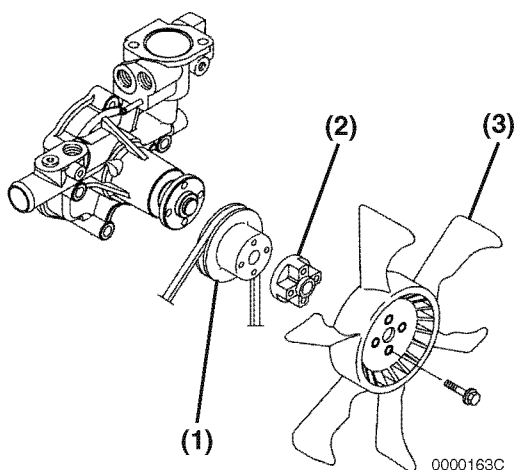

Figure 9-15
Remove the cooling water fan guard (if equipped), cooling fan (**Figure 9-15, (3)**), spacer (**Figure 9-15, (2)**), cooling water pump V-pulley (**Figure 9-15, (1)**), and V-belt.